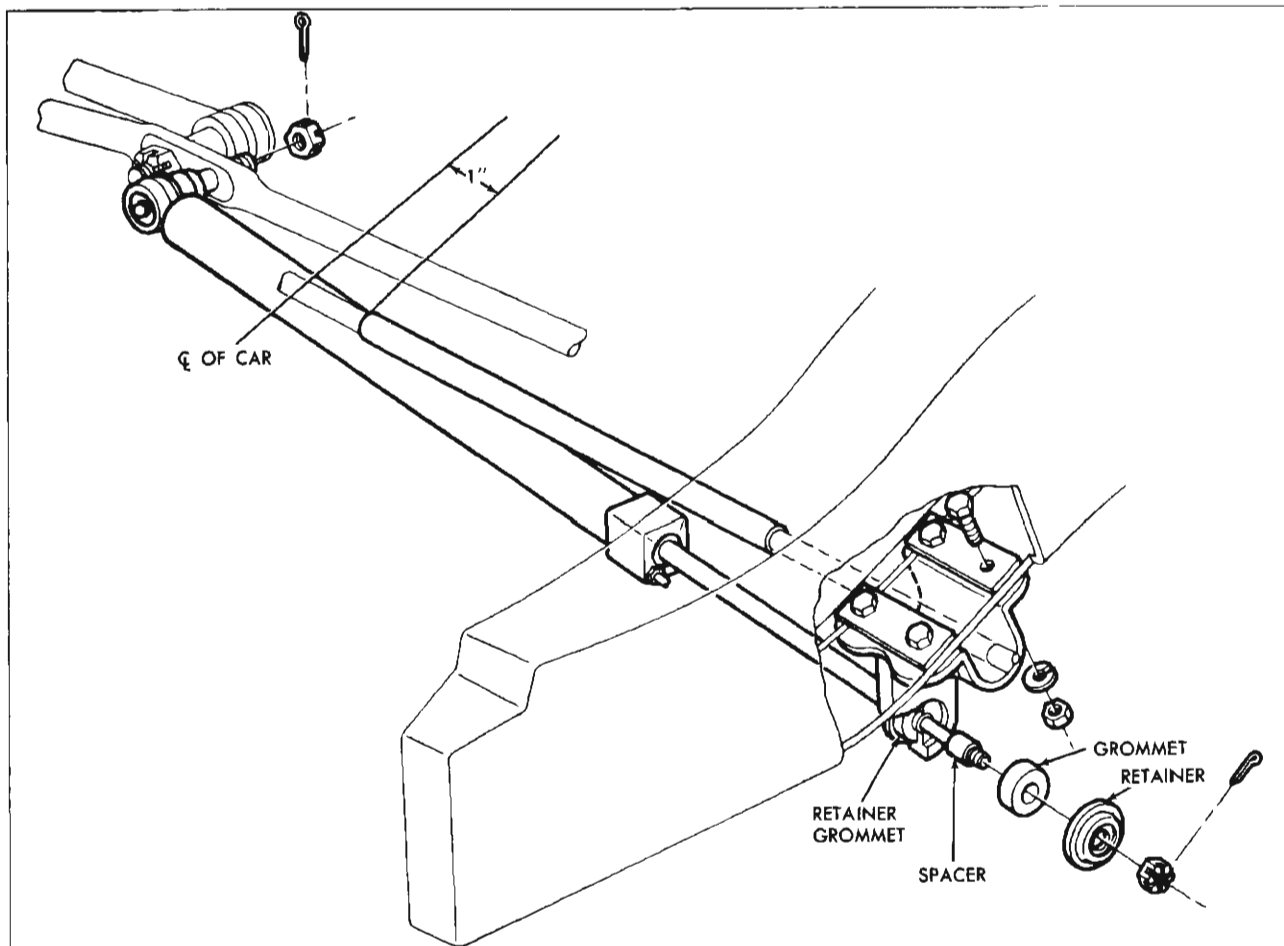

Fig. 28—Power Steering Cylinder Attachment
2. Remove cotter pin, nut, retainer and grommet from power cylinder rod attached to the frame bracket (fig. 28).